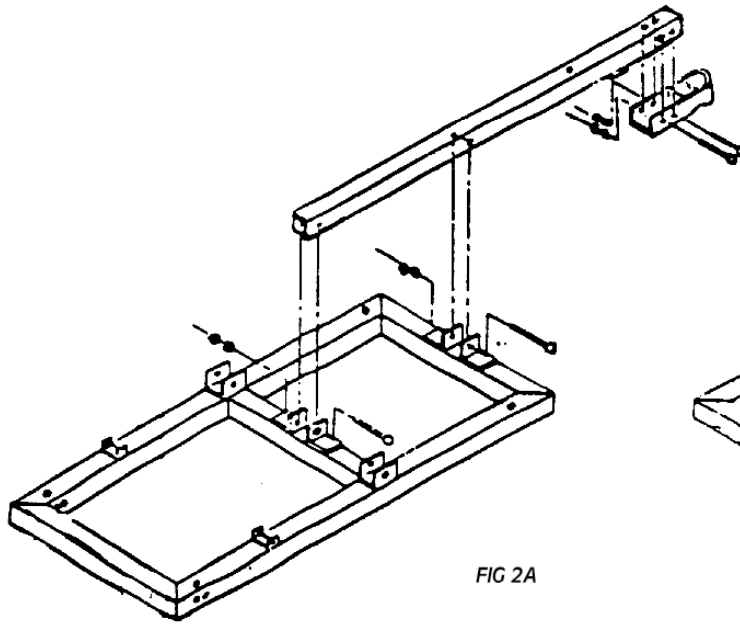

FIG 2A
- 4) Attach ball receiver socket to the end of the trailer tongue (with safety chains) using (2) each 3/8"-16 x 3" bolts, lock washers, and nuts provided as shown in Fig. 2A.
- 5) Attach tongue assembly to trailer frame using (2) each 1/2"-13 x 3" bolts, lock washers, and nuts provided, as shown in Fig. 2A.